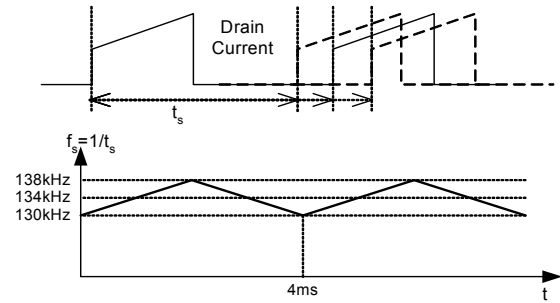

Figure 13. Frequency Modulation Waveform
7. Frequency Modulation : Modulating the switching frequency of a switched power supply can reduce EMI by spreading the energy over a wider frequency range than the bandwidth measured by the EMI test equipment. The amount of EMI reduction is directly related to the depth of the reference frequency. As can be seen in Figure 13, the frequency changes from 130KHz to 138KHz in 4ms for the FSD200B/210B. Frequency modulation allows the use of a cost effective inductor instead of an AC input mode choke to satisfy the requirements of world wide EMI limits.